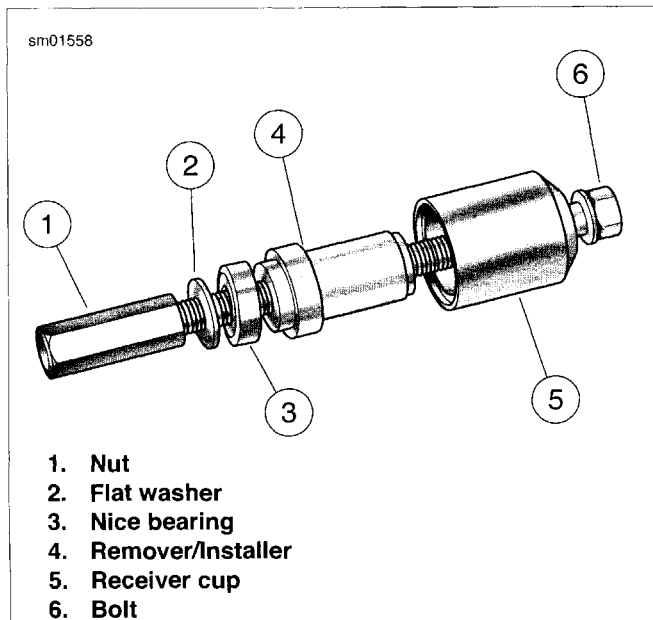

**Figure 3-146. Connecting Rod Clamping Tool (Part No. HD-95952-33C)**
1. See Figure 3-146. Obtain the CONNECTING ROD CLAMPING TOOL and install as follows:
- a. Slide clamp (2) over connecting rod so that slots engage cylinder head studs. Exercise caution to avoid scratching or bending studs.
- b. With the knurled side up, screw threaded cylinders (1) onto studs to secure position of clamp.
- c. Alternately turn each clamp thumbscrew (3) a few turns to gradually fix position of connecting rod. Turning only one thumbscrew will move rod off-center, while tightening second thumbscrew can cause rod to flex or bend.